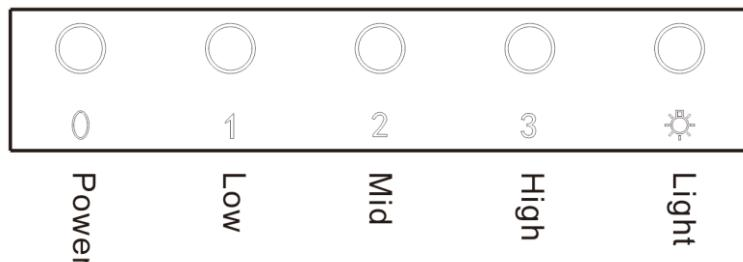

Figure 7
1. Stall speed adjustment, Fig. 7: